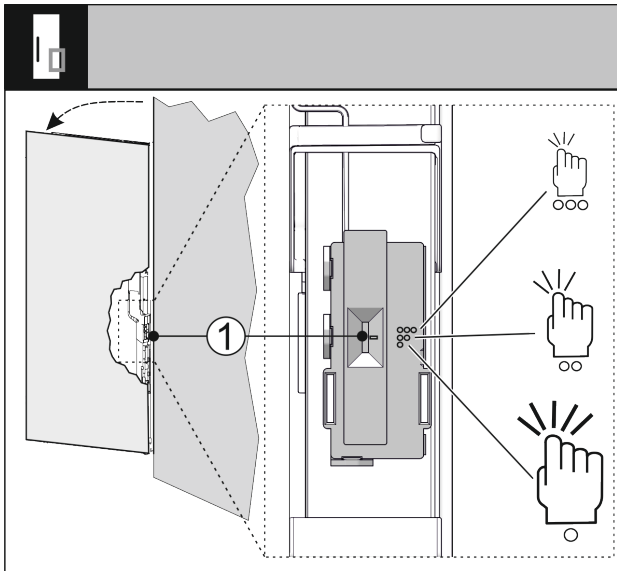

Fig. 70
You can use a switch Fig. 70 (1) to adjust the sensitivity of the knocking sensor. The switch is on the bottom third of the door on the hinge side.
► Move the switch Fig. 70 (1) to the required switch position.